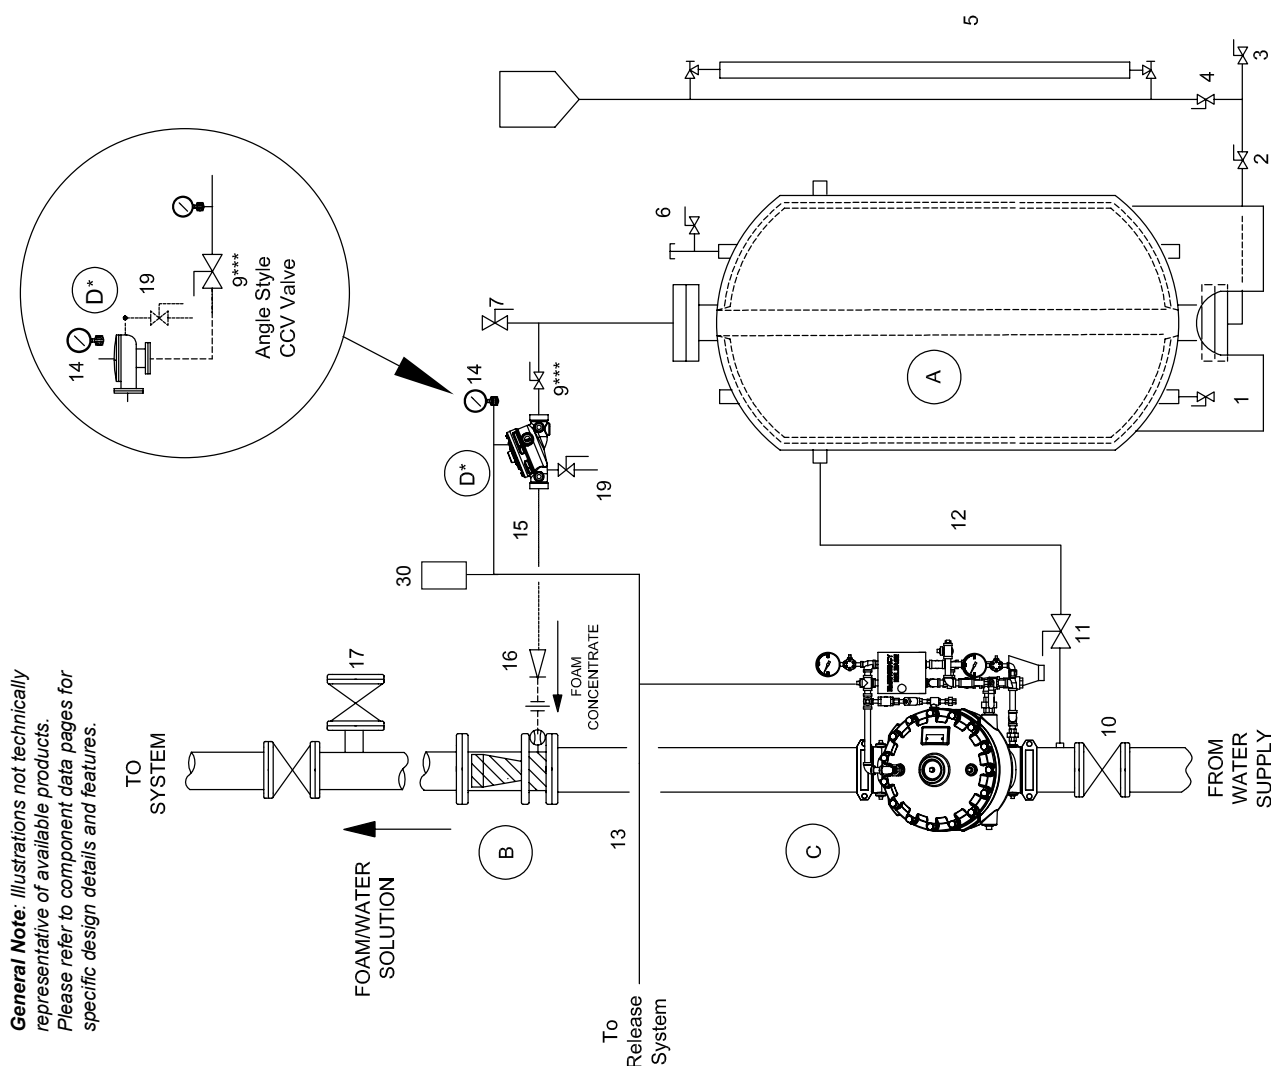

Figure 2
- F. The Halar® coated deluge CCV (D) does not require any trim, except for a ½" priming line (13) and water pressure gauge and 3-way valve (14) from the main deluge valve (C) to the priming chamber of valve (D). Plug all the remaining valve trim outlets. Connect Halar® coated deluge CCV (D) priming line (13) to deluge valve (C) as shown on Figure 2. Refer to the "Valves" section of this data book to find the correct trim kit part number for the corresponding size of Halar® coated foam deluge CCV (D) required.
- G. A strainer is not required in the foam concentrate discharge piping (15) of bladder tank systems per NFPA Standards.